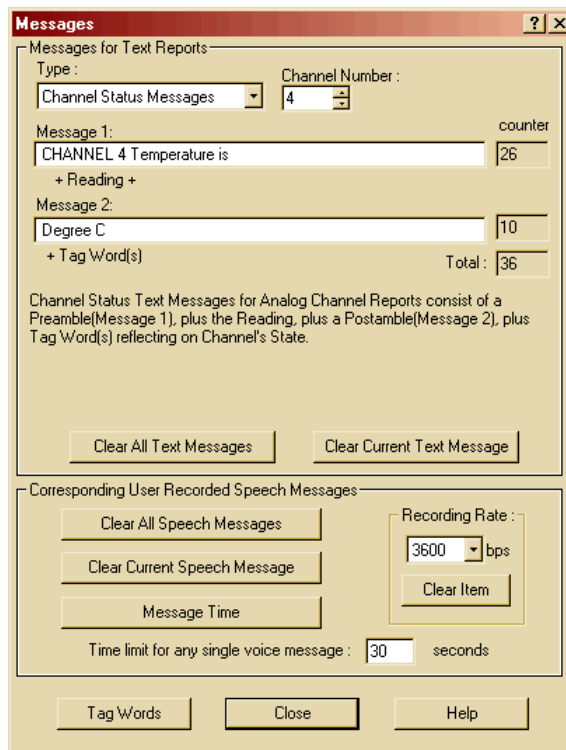

Figure 42: Messages, Channel 4
41. Change the **Channel Number** to 4 and edit it as shown in Figure 42.